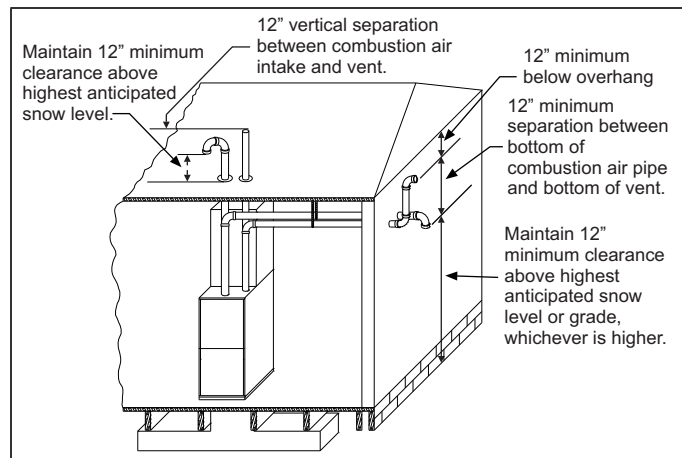
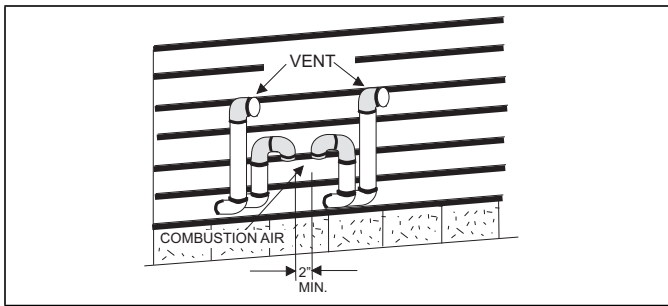

FIGURE 32: Termination Configuration - 2 Pipe
FIGURE 34: Double Horizontal Combustion Air Intake and Vent Termination
7. Direct vent systems must be installed so the vent and the combustion air pipes terminate in the same atmospheric zone. Refer to Figures 32 or 33.
The combustion air side of the two-pipe configuration shown in Figures 32 and 33 can be installed so the combustion air pipe terminates as described in outdoor combustion air or ventilated combustion air sections in these instructions. Follow the instructions for outdoor combustion air or ventilated combustion air and the instructions for installing the vent system with the vent terminating as shown in Figure 34 or 35. The two-pipe system must have a separate combustion air pipe and a separate vent pipe for each furnace. Under NO circumstances can the two combustion air or vent pipes be tied together. The combustion air and vent pipes must terminate in the same atmospheric zone.